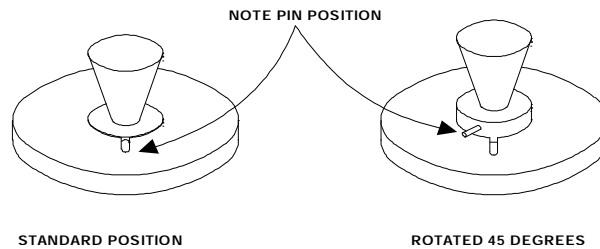

Figure 3 Filter Holder Positions
| Figure 3 Filter Holder Positions | 5 |
4. **Adjust the Zero or 0%T.** Select the wavelength you need. Lift the dosimeter holder slightly from the standard index position, rotate it 45 degrees to block the light path and simulate an infinite OD (see Figure 3). Adjust the 0%T knob to give a meter reading of zero transmission.